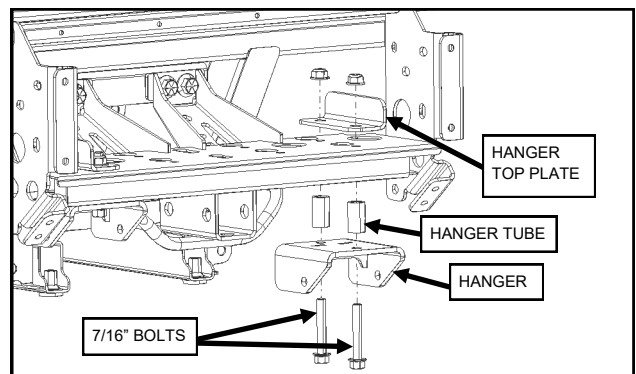

Fig. 2.1 (Hanger Bracket, Left Side)
- 2.1 Slide (2) 7/16 X 2-3/4" bolts thru the hanger and then thru (2) hanger tubes. Hold the assembly together and slide the bolts thru the Driver's side of the winch mounting plate as shown in Figure 2.1. Next, place the hanger top plate with (2) 7/16" lock nuts on top and hand tighten the nuts onto the bolts. Repeat for the Passenger's side.